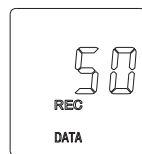
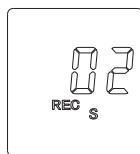
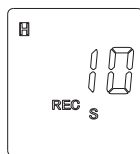

Fig.3
Fig.4
Fig.5
5. Instrument function selection: Long press MODE, five seconds later, starting the LUX/FC unit selection, sign "LUX" in LCD will start to flicker, if you want to switch to the FC selection, press **HOLD** sign "FC" will start to flicker. If the sign "FC" is flickering in the LCD, but you want to switch to the LUX selection, just press **MAX**. When the unit has been selected, press MODE one more time to start the automatic data recording parameter setting. (1). To set the number of the times of data recording. The sign "REC" and sign "DATA" would both flicker in the LCD (Fig.3) and the number of recording times displays. Press **HOLD** and **MAX** to set the number from 1 to 50. (2). To set the data sampling time interval. Press MODE again, the sign "REC" and "S" would both flickering (Fig.4). The number of the data sampling time interval displays in the LCD, unit for seconds. Press **HOLD** and **MAX** you can set the number from 1s to 60s. (3). To set the delay starting time of the data recording. Press the MODE again, the "REC" "S" and " " will be flickering at the same time (Fig.5), the displaying number is the time of delay start of data recording. Press **HOLD** and **MAX** to set it, a maximum of 60 seconds, 1 second minimum. To set the delay time can make it easier to place the instrument in a suitable location, to avoid an unstable of the object being measured, and reduce the factors which are bad for the accuracy to obtain accurate measuring results. (4). Press "MODE" again, the data automatic recording parameters setting will exit, back to the normal measuring mode. The parameters will be saved.